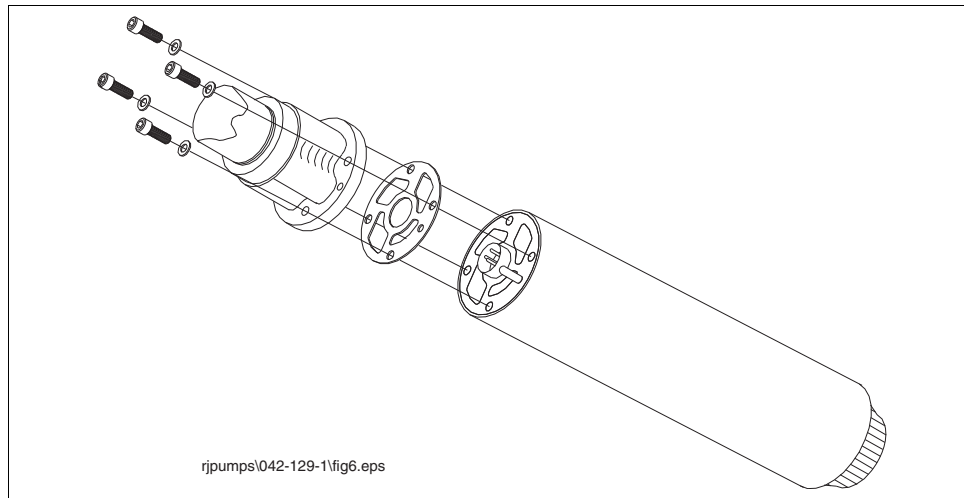

Figure 7. Aligning The UMP Gasket
1. Place the new gasket on the new UMP so that all holes align (see Figure 7).
5. Install the UMP retaining bolts and lock washers (see Figure 7). Snug and then torque the bolts using a cross pattern. Torque to 7 ft-lb. (11 N•m).